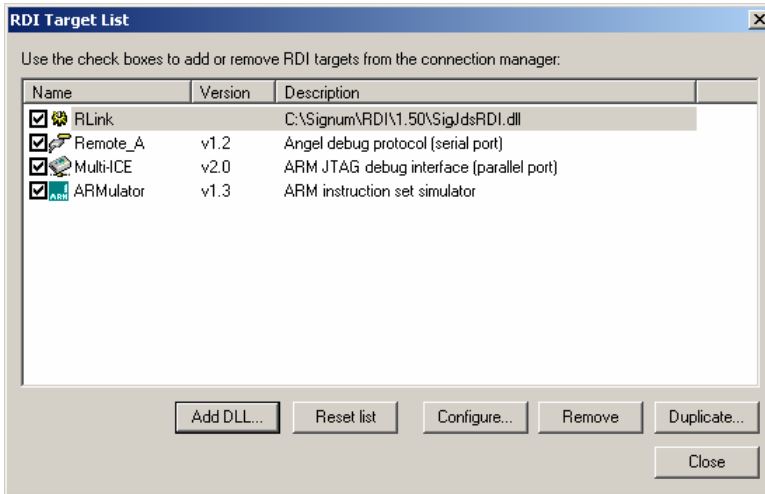

FIGURE 7 The augmented target list.
5. Make sure that the new target entry appears in the RDI target list (Figure 7) and close the RDI Target List dialog box.